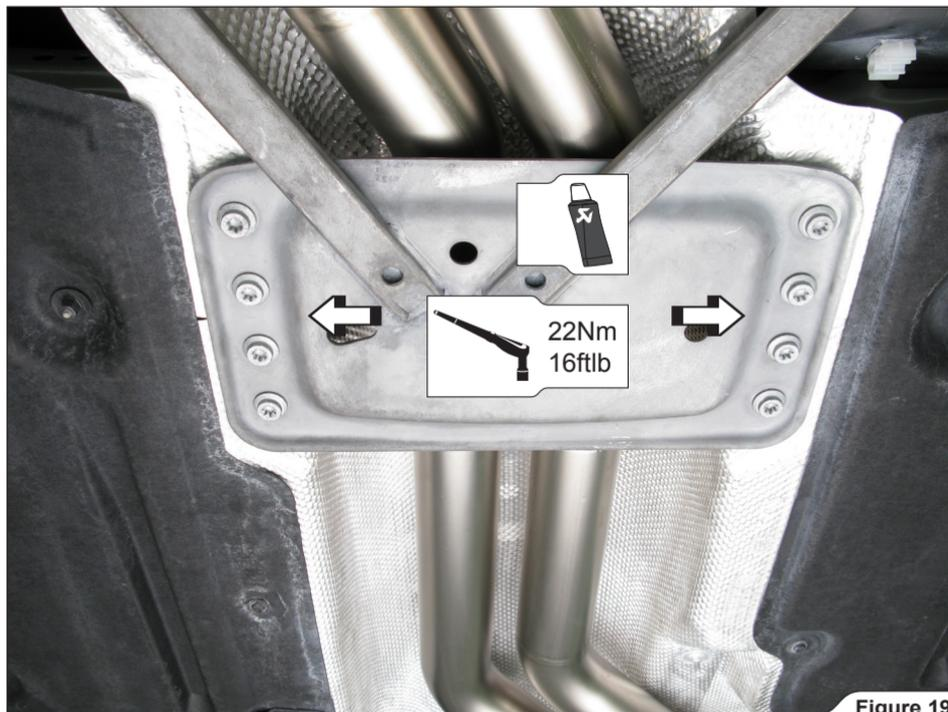

Figure 19
6. **For Evolution:** reattach and tighten to a specified torque the stock bracket to the vehicle chassis using stock bolts (**Figure 19, 20**).